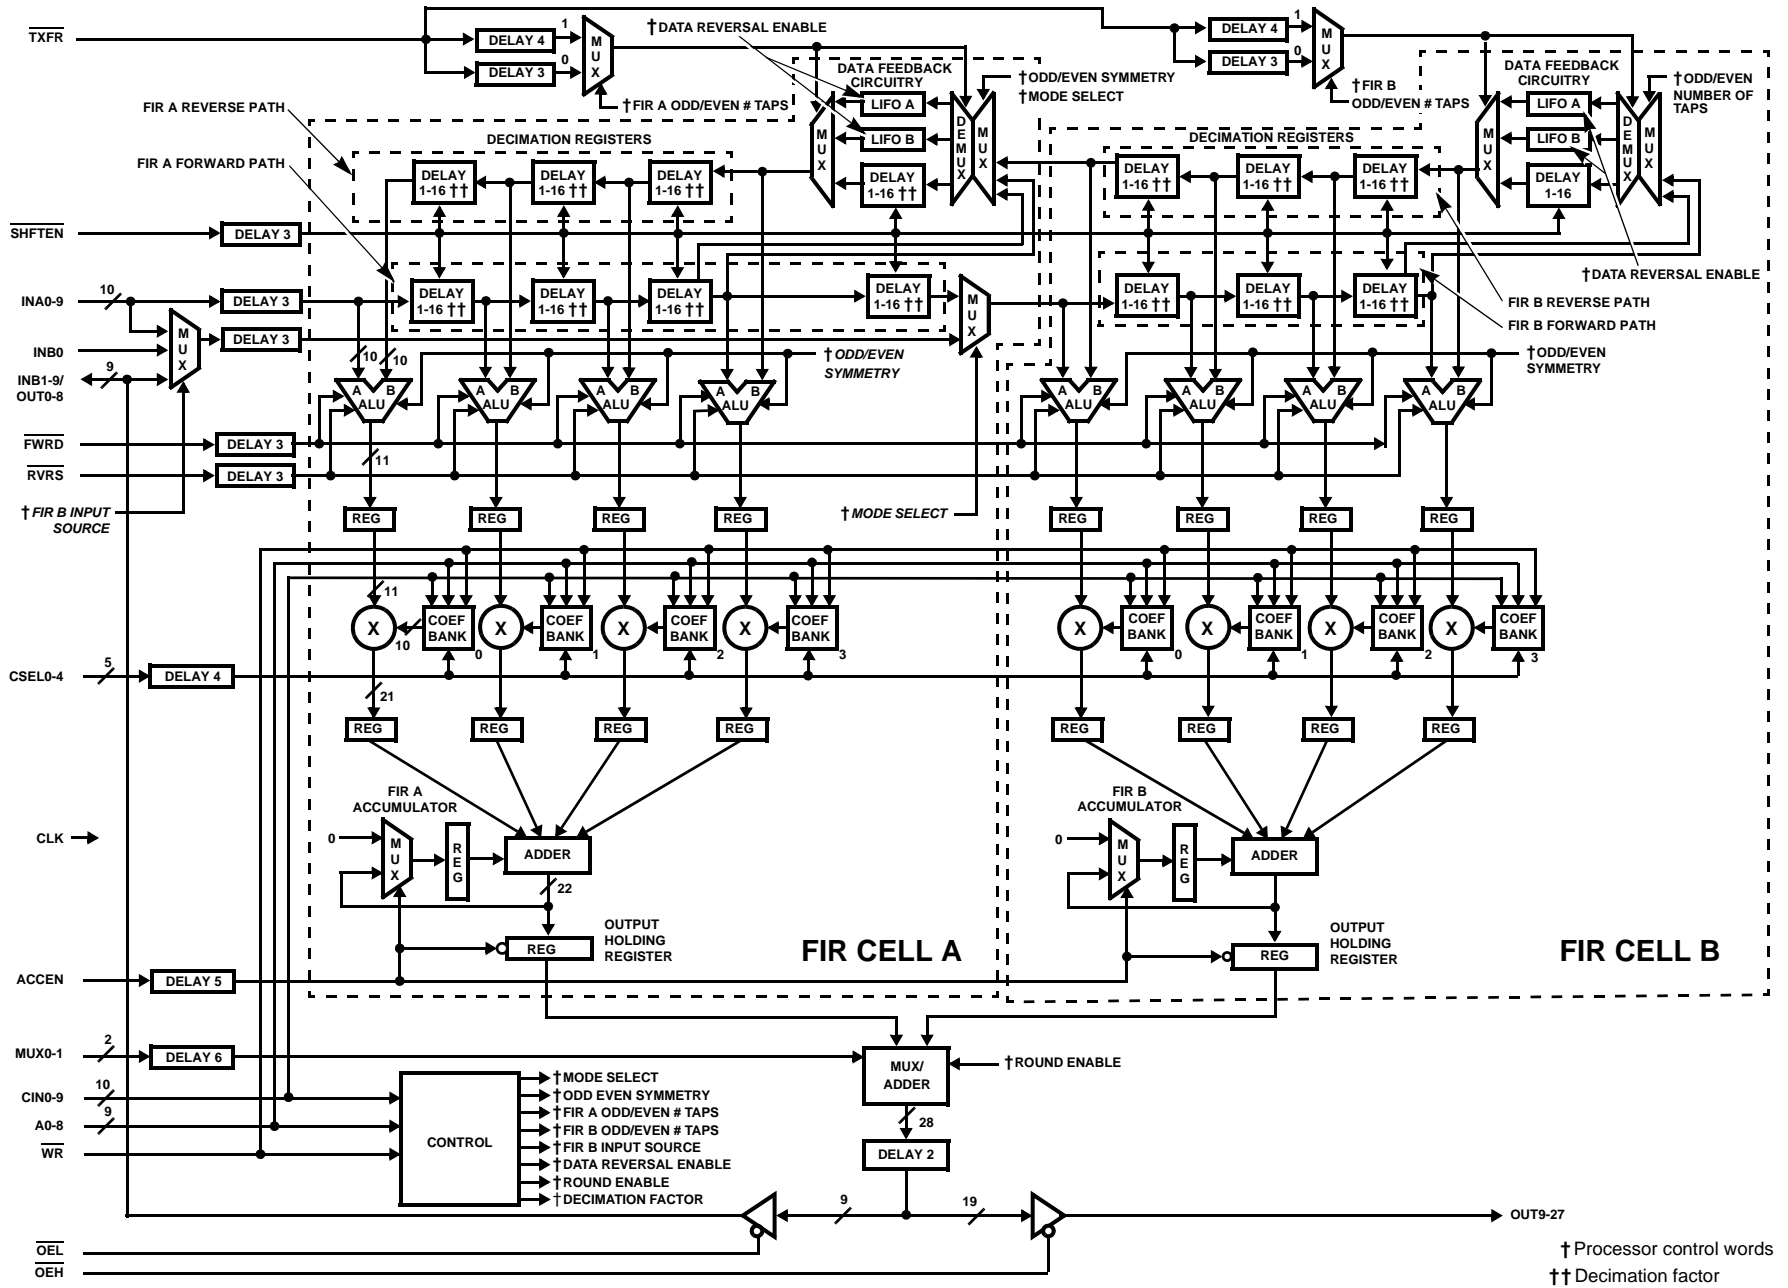

FIGURE 1. DUAL FIR FILTER
As shown in Figure 1, the HSP43168 consists of two 4-multiplier FIR filter cells which process 10-bit data and coefficients. The FIR cells can operate as two independent 8-tap FIR filters or two 4-tap asymmetric filters at maximum I/O rates. A single filter mode is provided which allows the FIR cells to operate as one 16-tap FIR filter or one 8-tap asymmetric filter. On board coefficient storage for up to 32 sets of 8 coefficients is provided. The coefficient sets are user selectable and are programmed through a microprocessor interface. Programmable decimation to 16 is also provided. By utilizing Decimation Registers together with the coefficient sets, polyphase filters are realizable which allow the user to trade data rate for filter taps. The MUX/Adder can be configured to either add or multiplex the outputs of the filter cells depending upon whether the cells are operating in single or dual filter mode. In addition, a shifter in the MUX/Adder is provided for implementation of filters with 10-bit data and 20-bit coefficients or vice versa.
(see Figure 1). Coefficient symmetry is selected by bit 5. Bits 6 and 7 are programmed to configure the FIR cells for odd or even filter lengths (number of taps). Bit 8 selects the FIR B input source when the FIR cells are configured for independent operation. Bit 9 must be programmed to 0.
**Note:** When the filter is programmed for even-taps, the TXFR signal is delayed by only three CLKS (see Figure 1). For odd-taps, the TXFR signal is delayed by four CLKS.